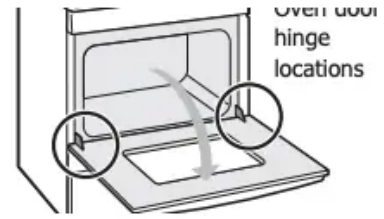

Figure 24: Door hinge location
- 1. Open oven door completely, horizontal with floor (See Figure 24).
- 3. Fully open the oven door, horizontal with floor (See Figure 24).